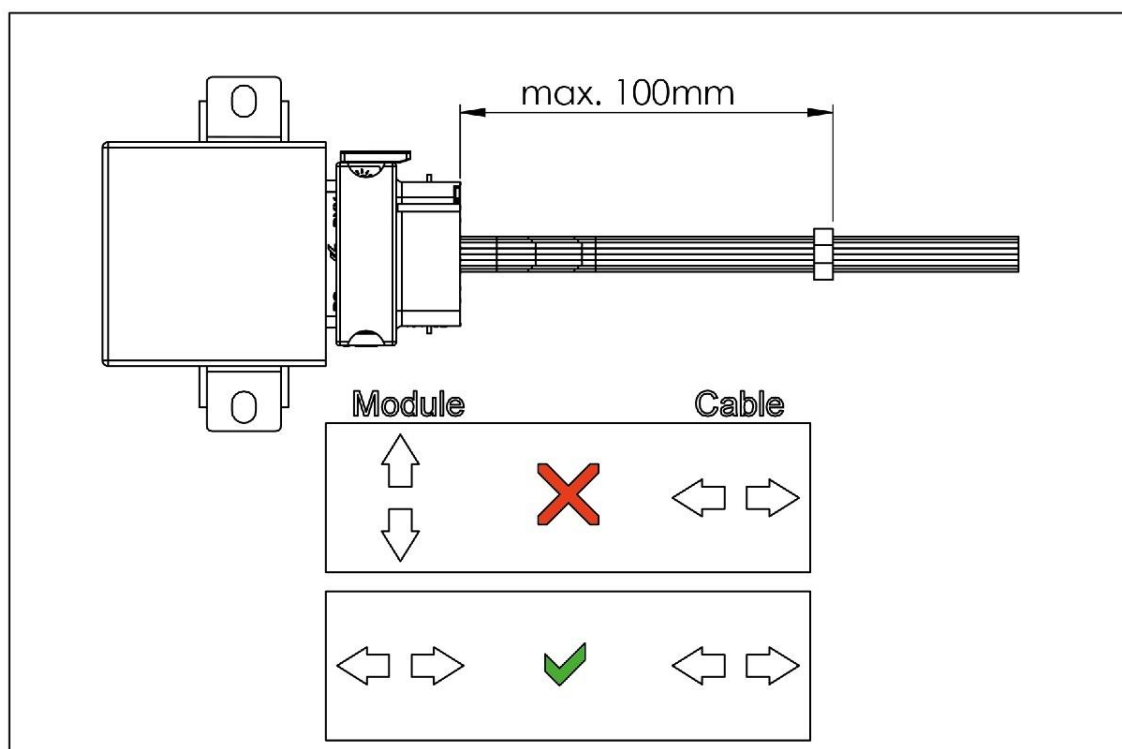
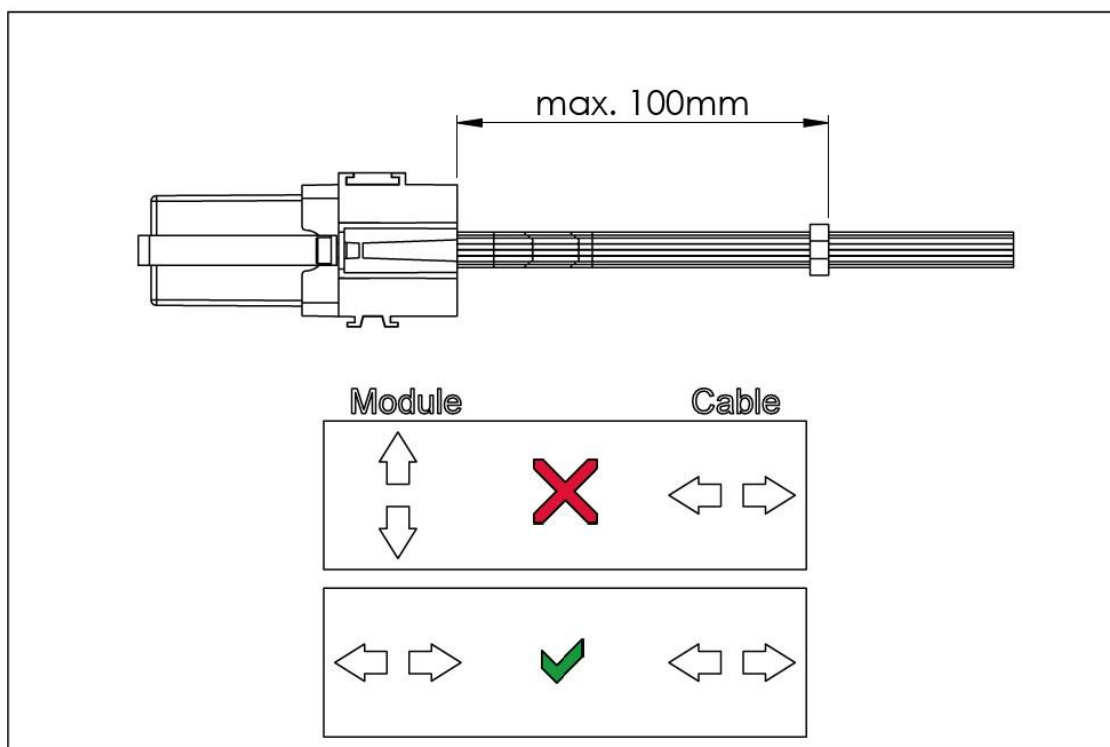

Figure 1: Strain relief of the cable harness (example). 100 mm (max.) are mandatory, gateway may vary.
Figure 2: Strain relief of the cable harness (example). 100 mm (max.) are mandatory, gateway may vary.
- The cable routing must be selected in such a way that the cable harness only moves identically to the direction of movement of the controller/plug. (Attachment controller/cable/strain relief on the same underground). A strain relief is necessary (see Figure 1 and Figure 2).